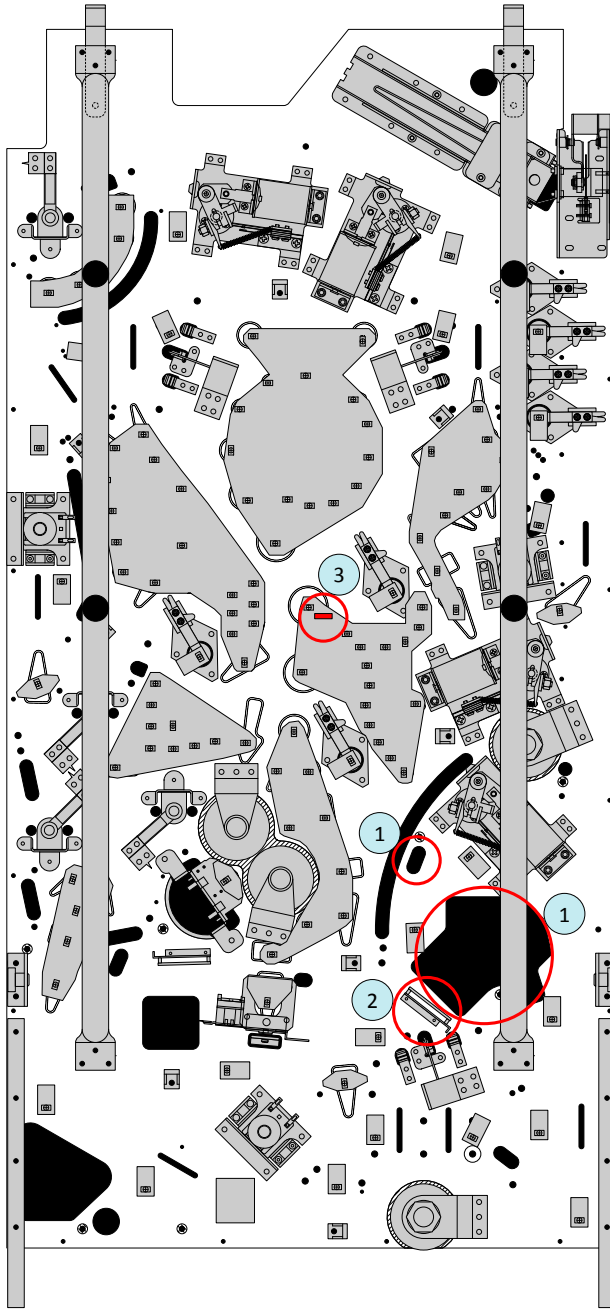

Figure E5. Munchkinland playfield removal, illustration 1.
1) Raise the playfield and lean it against the backbox as shown in figure E5; locate the two holes circled in the illustration. Unplug the inline connectors for the mechanisms on or under the Munchkinland playfield, 2 connectors through the larger hole, 1 through the smaller hole:
3) Unplug the data cable from the red connector on main RGB LED board WOZLED03 (circled in figure E5); this cable will remain connected to the Munchkinland playfield as it is removed (pulled through the smaller playfield hole). Cut any wire ties holding this cable underneath the playfield. Push all unplugged connectors and cables up through the holes in the main playfield.